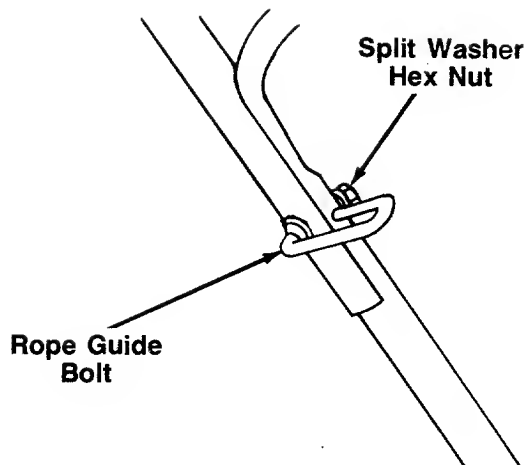

FIGURE 3.
3. Insert the rope guide bolt through the right hand side of upper and lower handle from the outside in. See figure 3. Secure with split washer and hex nut, finger tight only at this time.